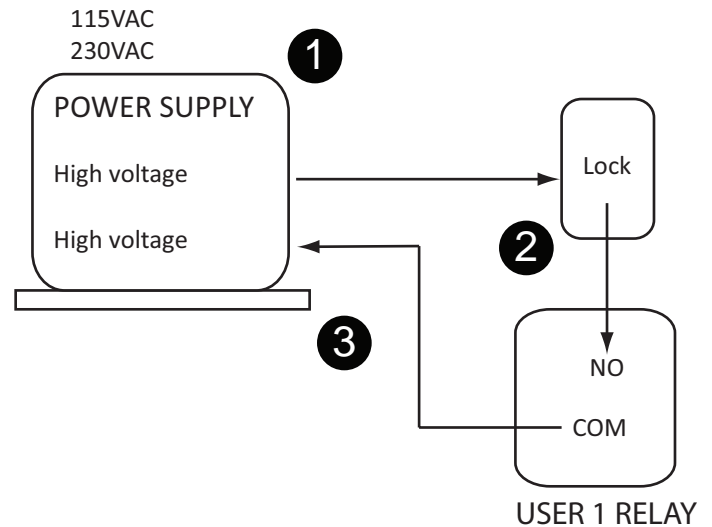

Figure 61. Lock Installation- High Voltage
1. Connect one lead of the power supply to one lead of the lock's coil. See Figure 61.